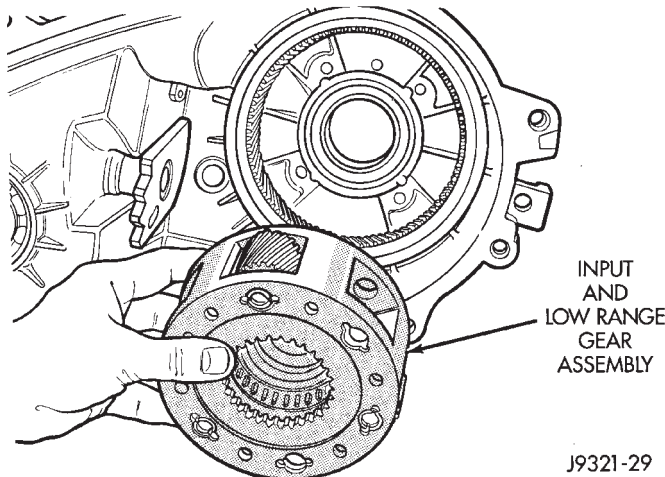

Fig. 34 Input And Low Range Gear Assembly Removal
(5) Remove input and low range gear assembly (Fig. 34).